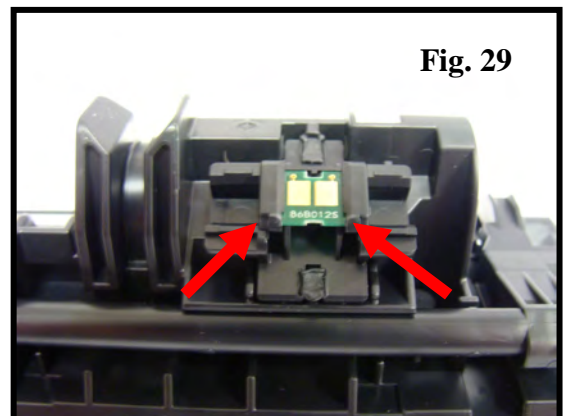

Fig. 29
29. Remove the plastic welds that secure the chip in the housing using a utility knife (Fig. 29).